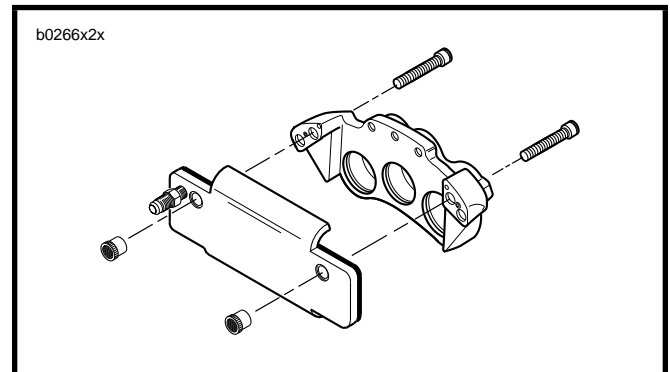

Figure 12. Inside Caliper Half
- b. See Figure 12. Attach inside caliper half using two screws and two nuts.